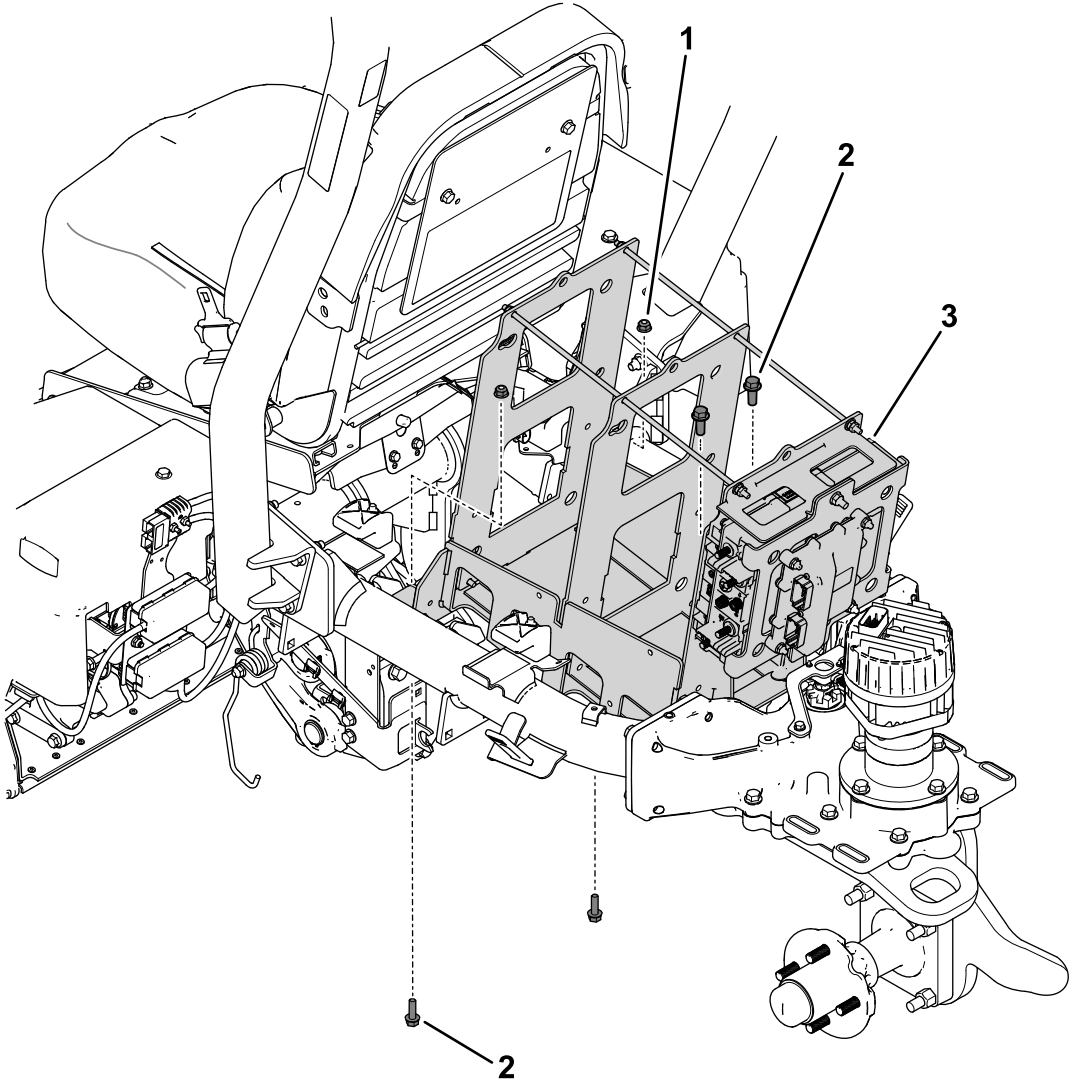

Figure 5
4. Remove the hardware that secures the top battery tray to the machine frame (Figure 5).